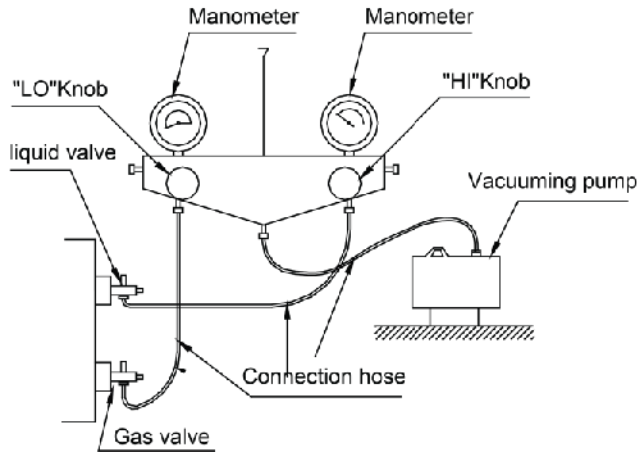

Fig. 36
1. Confirm outdoor liquid and gas valves are closed. Air purge from the nozzle located on liquid and gas valves by vacuum pump. See Fig.36.